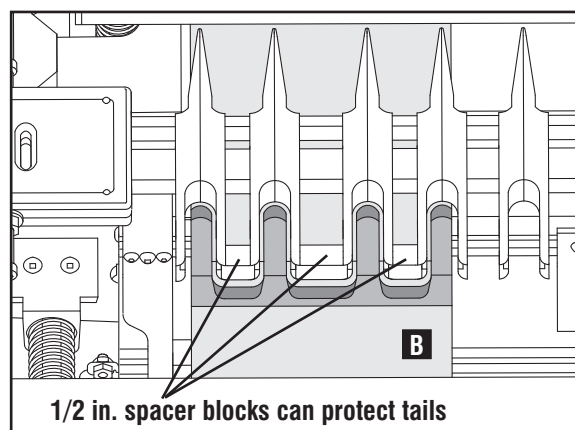

Fig. G10
6. Make your cut, according to your instructions for variable-spaced half-blind joints. Final cut should look like Fig. G10.